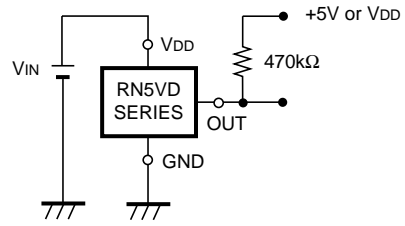

Fig. 4 Detector Threshold Test Circuit
*) at Fig.4,7,9. CMOS Output Type does not need a pull-up resistor.